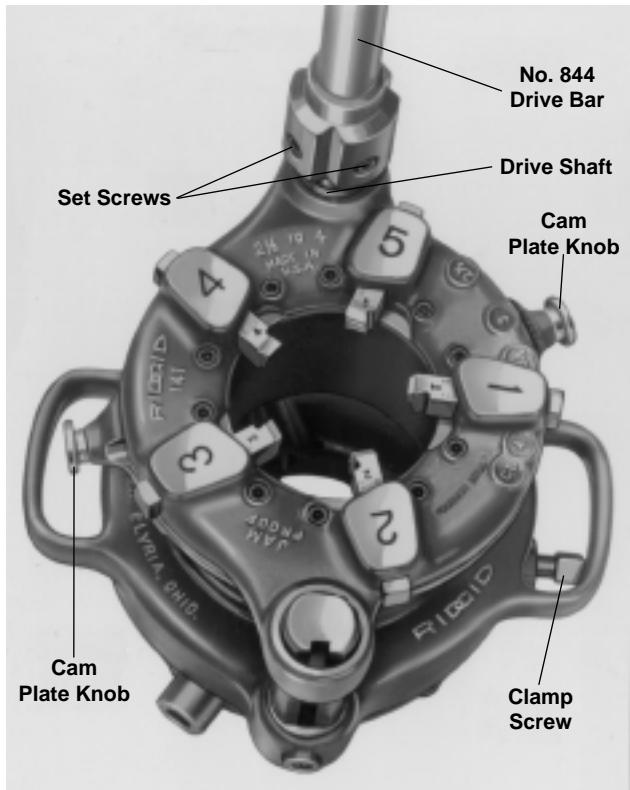

Figure 7 – No 141 Geared Threader (No. 161 Threader Similar)
2. Pull knobs (*Figure 7*) of cam plate and rotate cam plate to desired pipe size marking on top of die head. Release knobs when locating pins drop into holes in selector plate.